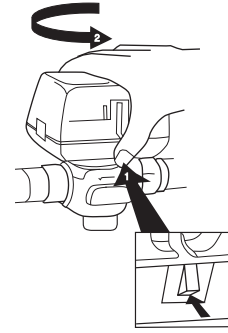

Fig. 3. Latch Mechanism to detach Actuator.
1. The actuator head is automatically latched to the valve. Align the coupling hole in the bottom of the actuator with the valve stem. Press the actuator down towards the body with moderate hand force and turn the actuator counter-clockwise by 1/8 turn (45°) to line up the actuator with the piping. See Fig. 3.
4. The actuator head is automatically latched to the valve. To remove, press up on the latch mechanism with your thumb. It is located directly below the white manual open lever (see Fig. 3). Simultaneously press the actuator down towards the body with moderate hand force and turn the actuator counter-clockwise by 1/8 turn (45 degrees). Lift the actuator off the valve body.
5. Install the new actuator by reversing the process in (4).